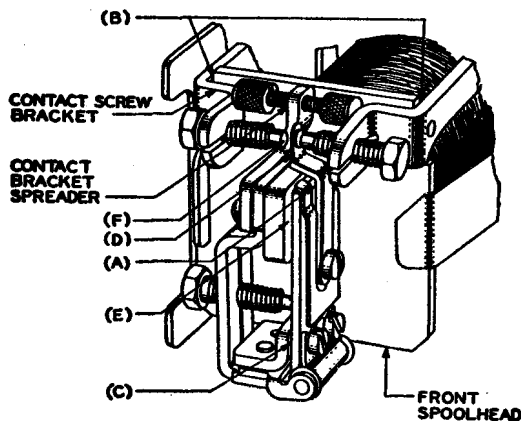

Fig. 1 — Relay Equipped With Contact Bracket Spreader
1.01 *Clearance Between Contact Spring and Retractable Spring:* Fig. 1(A) — Contact spring and its support shall not touch sides of slot in retractile spring in operated or unoperated position of armature.
- (1) Studs on brackets fall within slots in spoolhead.
- (b) Relays with contact bracket spreader, Fig. 1(B):
(1) Min 0.006 inch between bracket and spoolhead.
(2) 1/64 inch between top of spreader and cover, or insulate cover above spreader with single layer of scotch cellulose tape, if cover is not already so insulated.
1.05 *Base Gap (Readjust Only):* Fig. 1(C) — Min 0.009 inch, Max 0.011 inch. No. 74D gauge.
(a) Fig. 1(D): Min 3, Max 7 grams against spring support. No. 70F gauge. For "test" the requirement is met if contact spring rests on support at least within 1/16 inch of extreme end of support.
1.07 *Armature Travel:* Fig. 1(E) — Min 0.009 inch, Max 0.011 inch. No. 74D gauge.
1.08 *Contact Separation:* Fig. 1(F) — Min 0.003 inch, Max 0.005 inch. No. 74D gauge.